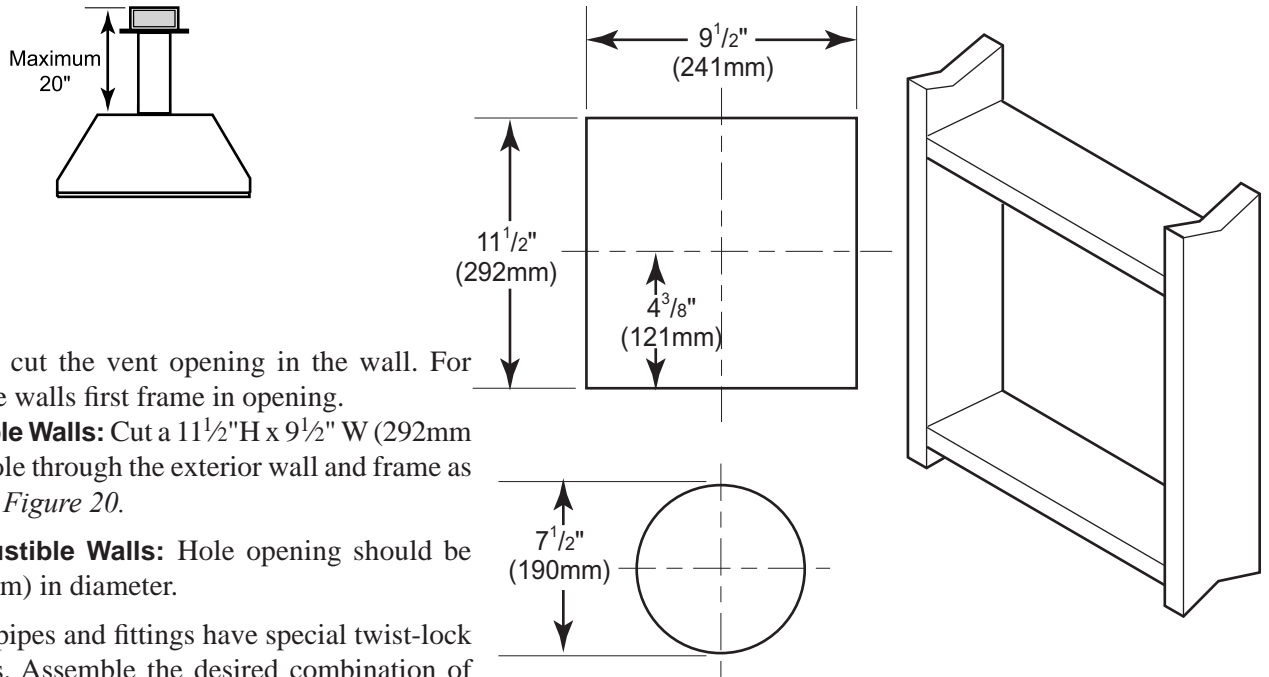

Figure 20 - Vent Opening Requirements
Combustible Walls: Cut a 11½"H x 9½" W (292mm x 241mm) hole through the exterior wall and frame as shown. See Figure 20.
1. Establish vent hole through the wall. *See Figure 20, page 21.*